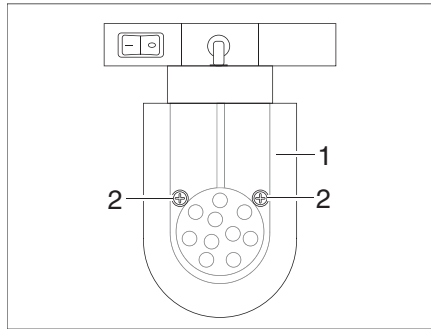

Fig. 313 LED spotlight (movable)
- Loosen the fixing screws (Fig. 313,2).
- Remove the lamp glass cover (Fig. 313,1) carefully.